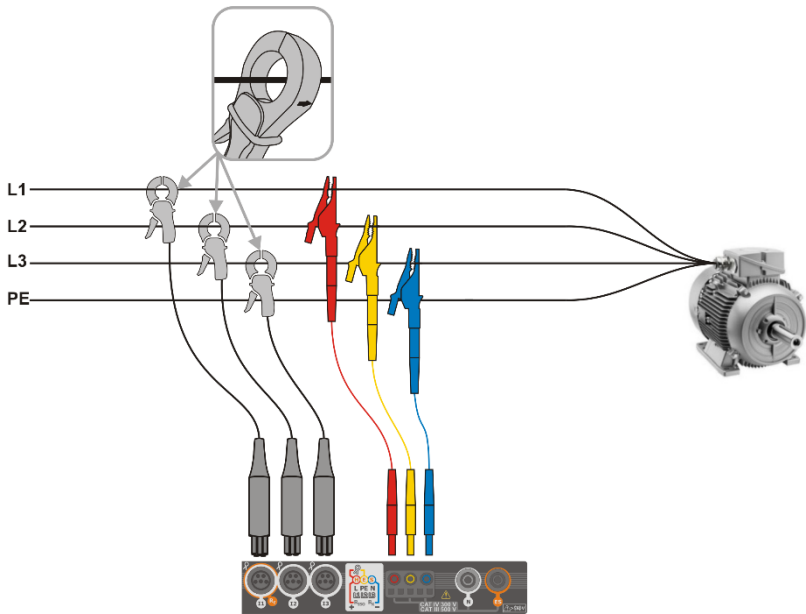

**Fig. 5.5 Wiring diagram – 2-phase**
- 2-phase (split-phase) with split-winding of the transformer) (Fig. 5.5),